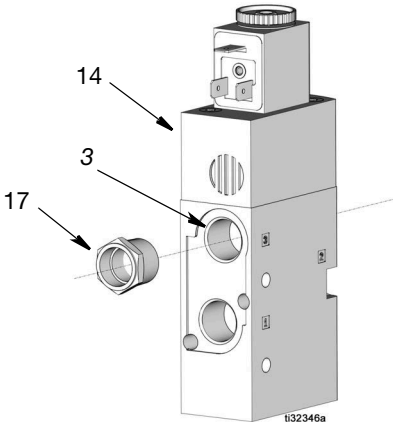

FIG. 28
7. Remove muffler (17) from the port numbered 3 in the solenoid valve (14) (FIG. 28).
1. Install muffler (17) in the port numbered 3 on the new solenoid valve (14) (FIG. 28).